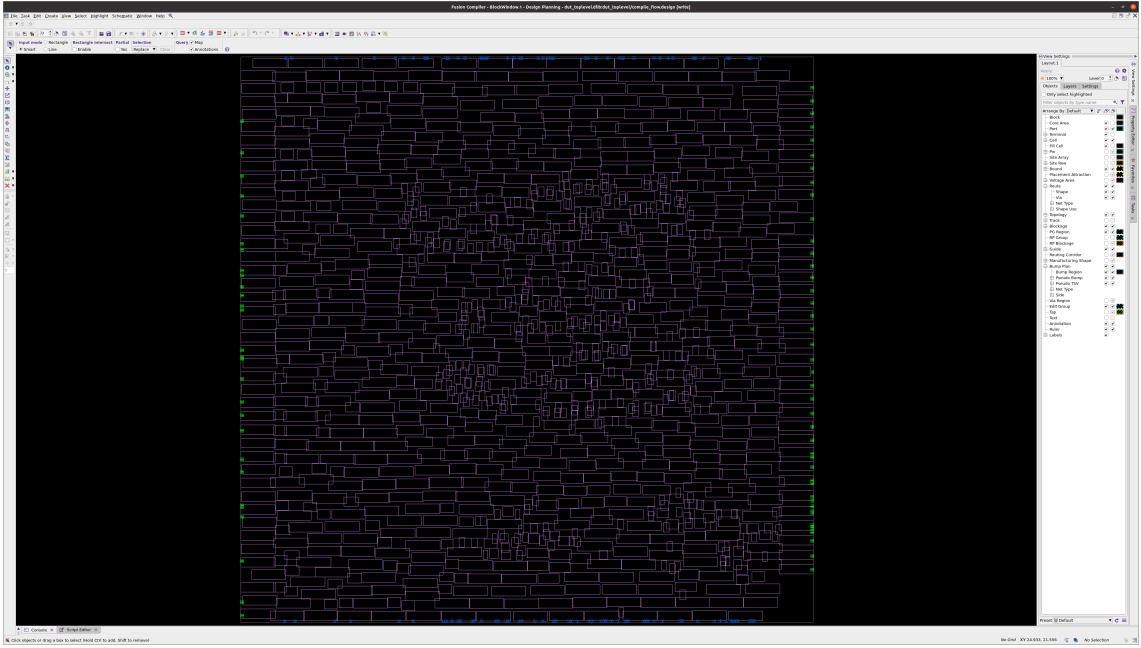

Figure 2.2: Layout after `initial_place`.
3. `initial_place` significantly reorganises cell layout and makes rows slightly more visible. There are still many overlapping cells. (Fig. 2.2)